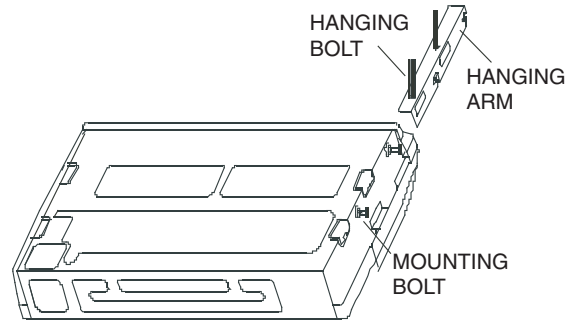

Fig. 9 — Securing Unit To Hanging Arm
4. Slide the unit backwards onto the hanging arm until the mounting hole on the unit lines up with the mounting hole on the hanging arm. Secure the unit using mounting bolts as shown in Fig. 9.